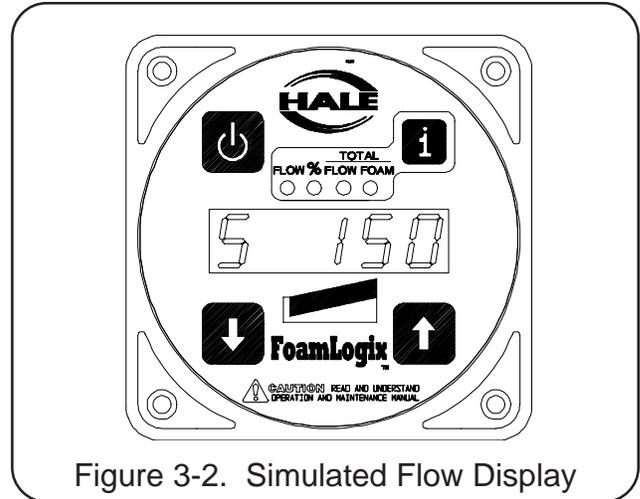

Figure 3-2. Simulated Flow Display
3. Place the system in simulated flow mode by selecting the **FLOW** display and depressing both up \uparrow and down \downarrow buttons simultaneously. Increase simulated flow value by pressing \uparrow button to permit easier priming (above factory default value of 150 GPM). Display will show "S" at the left most position to indicate the simulated flow (See figure 3-2).